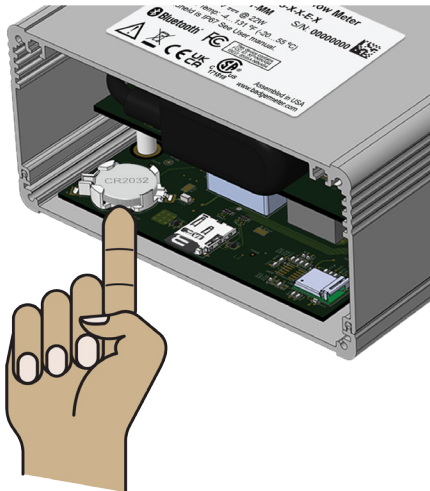

Figure 23: Remove the coin battery
- Remove the coin battery by prying the bottom of the battery upward, releasing the battery from the holder. Refer to Figure 23 below.